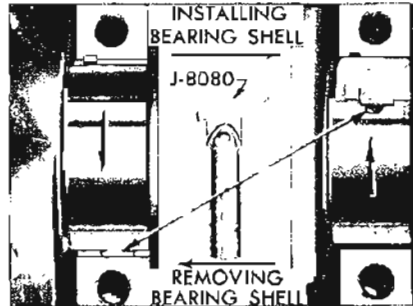

Figure 2-31—Removing and Installing Crankshaft Bearing Upper Shell
7. Remove upper bearing shell by inserting Bearing Shell Remover and Installer J-8080 in oil hole in crankshaft, then slowly turning crankshaft so that the tool rotates the shell out of place by pushing against the end without the tang. See Figure 2-31. CAUTION: When turning crankshaft with rear bearing cap removed hold oil seal to prevent it from rotating out of position in crankcase.
11. Rotate bearing shell into place as far as possible by hand, then insert Installer J-8080 in crankshaft oil hole and rotate crankshaft to push shell into place. See Figure 2-31. CAUTION: Bearing shell should move into place with very little pressure. If heavy pressure is required, shell was not started squarely and will be distorted if forced into place.